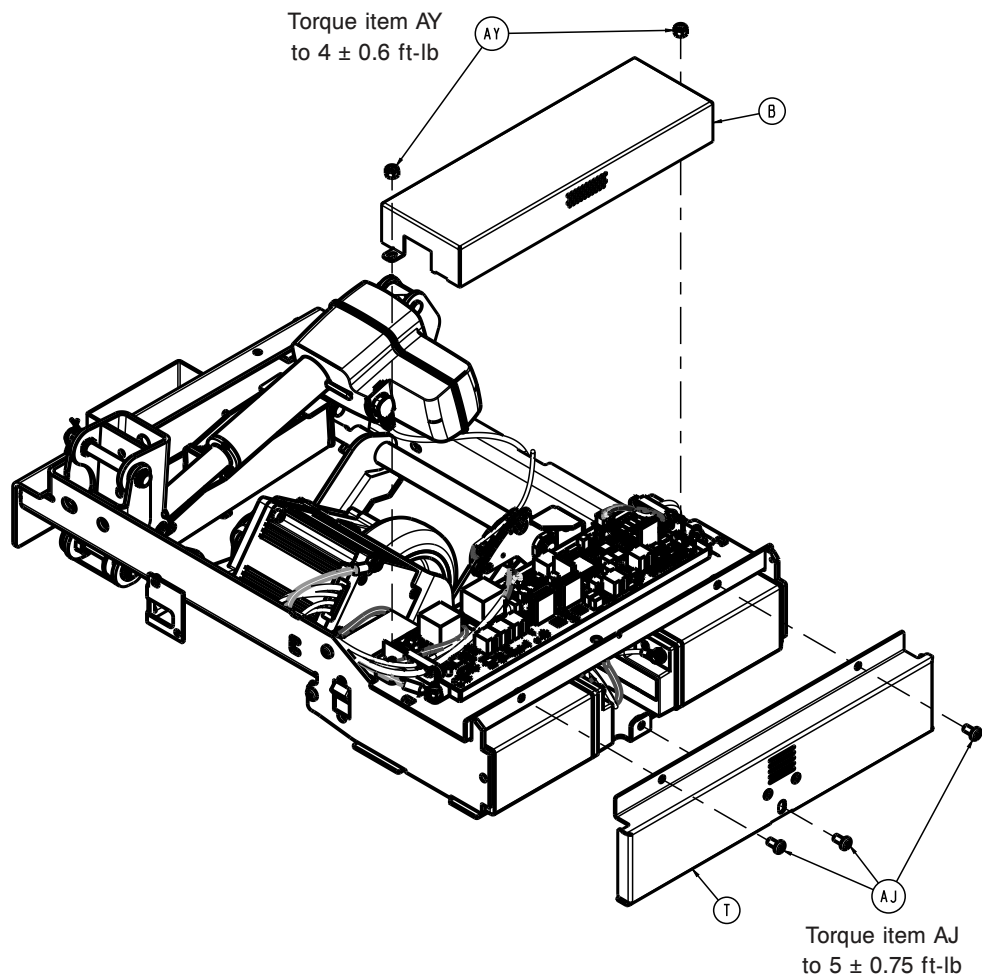

Figure 66 – Removing the battery cover
9. Using a T27 Torx driver, remove the three screws (AJ) that secure the battery box cover (T) to the base weldment (Figure 66). Save the screws and battery box cover.
- 15. Using a ratchet and 7/16” socket, remove the two nuts (AY) that secure the board cover (B) to the frame weldment (Figure 66). Save the nuts and board cover.
9. Using a ratchet and 7/16" socket, remove the two nuts (AY) that secure the board cover (B) to the frame weldment (Figure 66). Save the nuts and board cover.